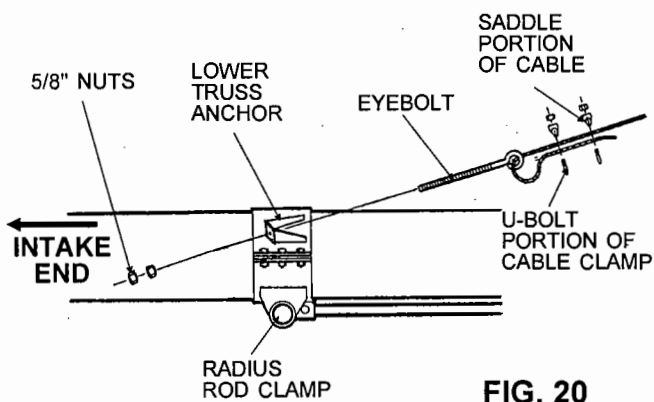
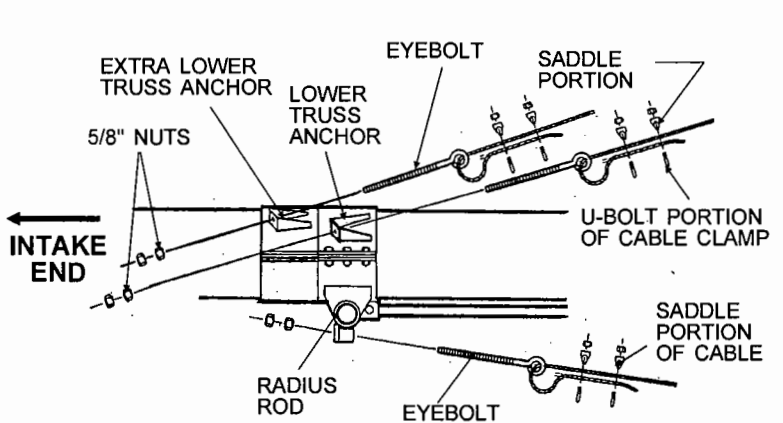

FIG. 20
FIG. 21
- Step 4. On 42', 52', 62' & 72' fasten radius rod clamp to the auger tube using a 6" wide halfband and six 3/8" x 1 1/2" long hex head capscrews with nylon locknuts. On 42', 52', 62' and 72' the 6" wide halfband will have truss anchors welded to it. The truss anchors must be pointing towards the discharge end of the auger. See Fig. 20 on page 24 for 42', 52' & 62' models or Fig. 21 on page 24 for 72' models.
- Step 5. On 72' models bolt another lower cable truss to the auger tube just below the radius rods clamp. Use a 6" wide halfband and six 3/8" x 1 1/2" long (grade 5) hex head capscrews with nylon locknuts to secure lower truss anchor to auger tube. See Fig. 21 on page 24.
Step 11. Install the eyebolts into the lower truss anchor with the eye of the bolts pointing towards the discharge end of the auger. Install two nuts on each eyebolt. The 42', 52' and 62' models use two eyebolts. See Fig. 20. The 72' models use four eyebolts. See Fig. 21.
- Step 15. Attach truss cables to eyebolts using two cable clamps per each cable. **NOTE:** Secure the clamp u-bolt against loose end of cable. See Fig. 20. on page 24 for 42', 52' & 62' models. See Fig. 21 on page 24 for 72' models.
Attach the 30'-0" (9.1 m) long cables to eyebolts using two cable clamps per each cable. **NOTE:** Secure the clamp u-bolt against loose end of cable. See Fig. 21 on page 24. Using eyebolts tighten cables to remove slack to where the cables are reasonably snug. Tighten both cables the same. **DO NOT OVERTIGHTEN.** Sight down the tube to make sure all sections are straight. Some adjustments can be made after auger is completely set up. Tighten the 3/8" cable clamps or 3/8" u-bolts holding the cable to the truss sides.